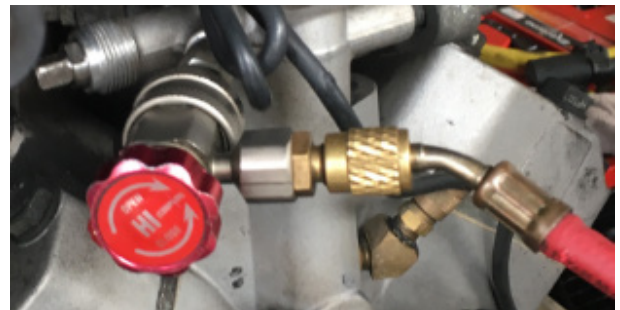

FIGURE 5: GAUGE CONNECTION (HIGH PRESS. SIDE)
- Connect the AC gauges high-pressure side (red hose and gauge) to the compressor high pressure service port (figure 5) (remove red protective cap).